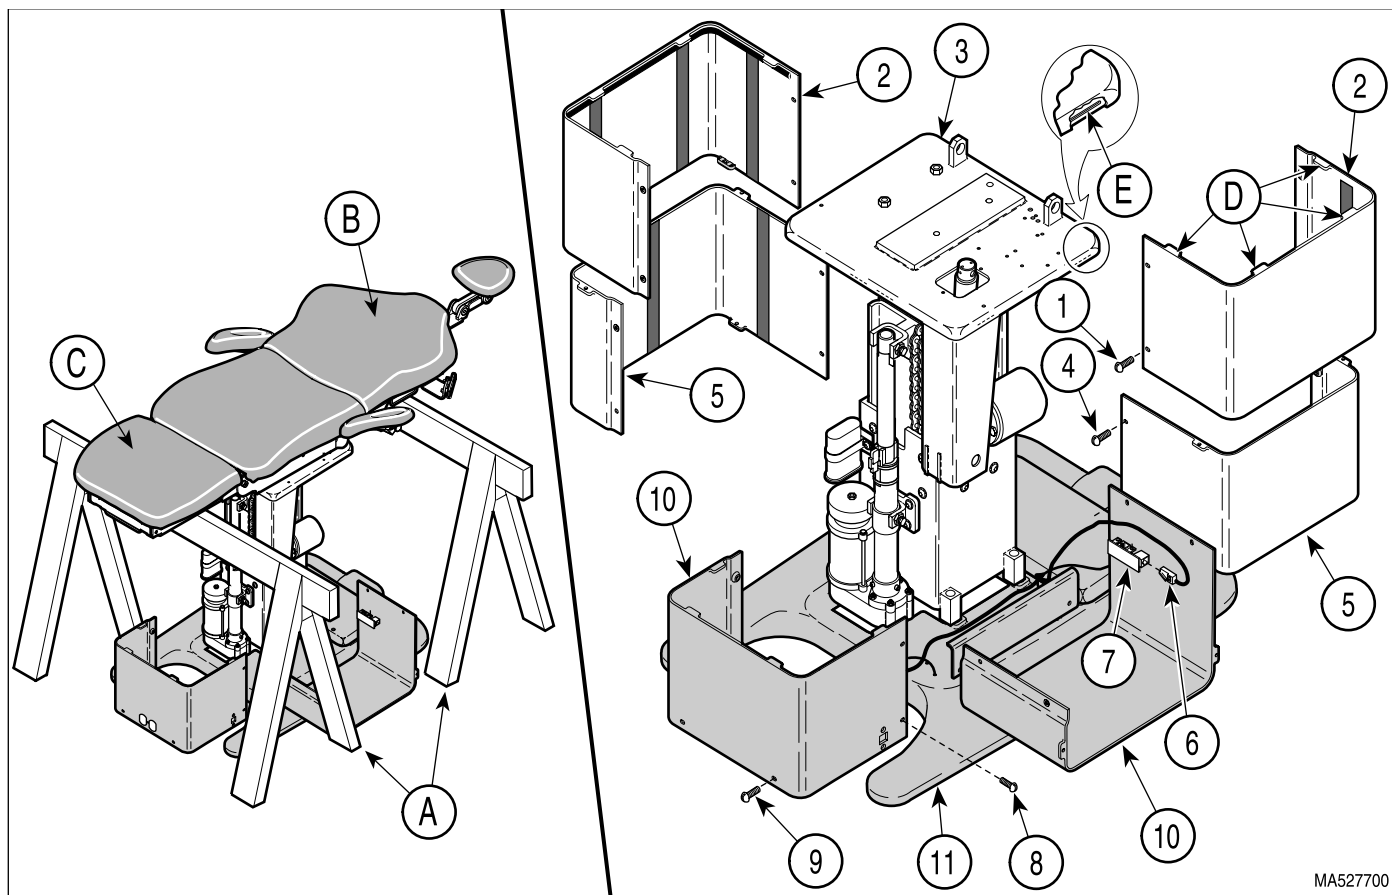
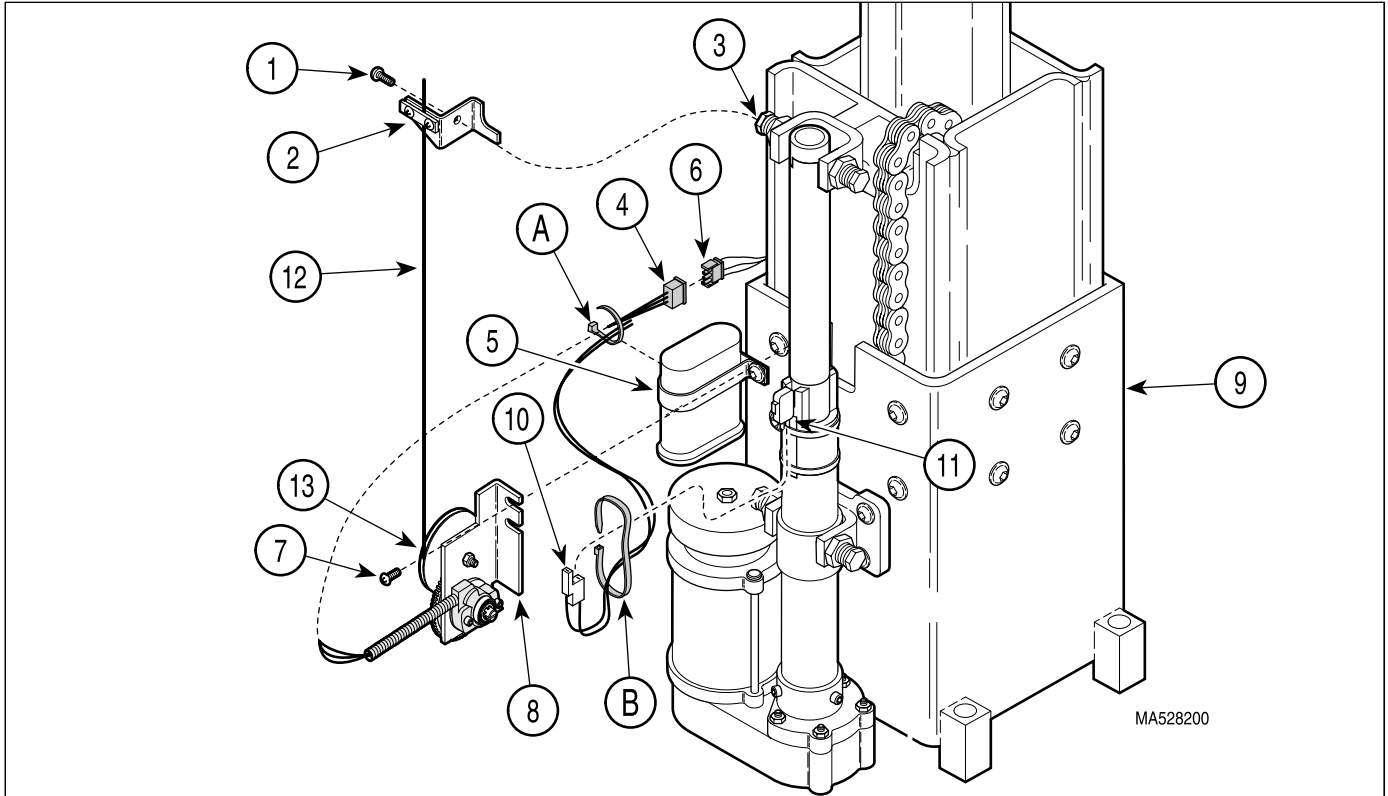
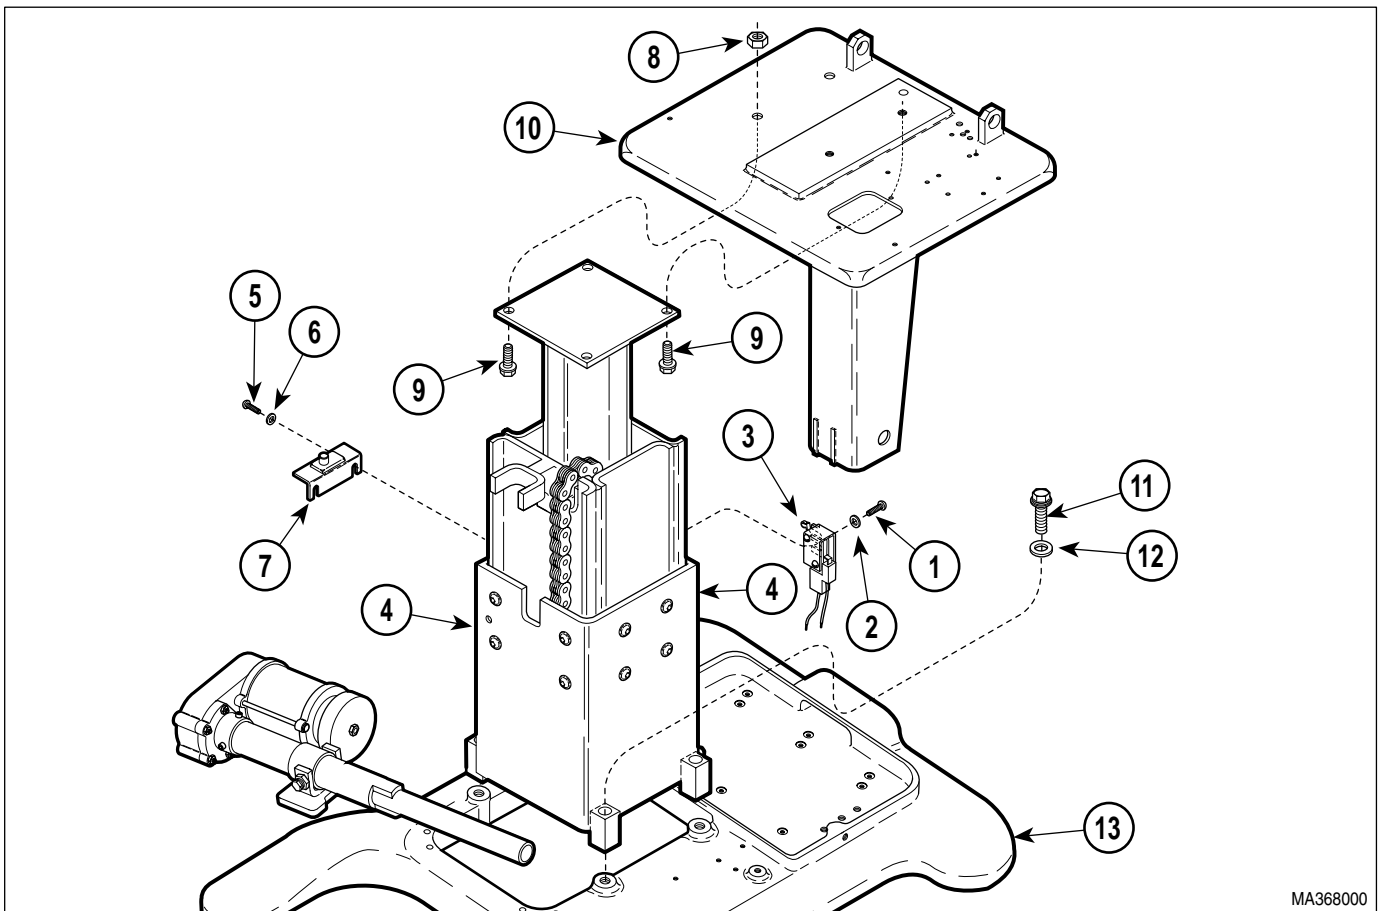

Figure 4-20. Base Shrouds Removal / Installation
Figure 4-21. Base Reducer Components Removal / Installation
Figure 4-23. Column Assembly Removal / Installation
(3) Unplug table power cord from outlet receptacle.
(4) Remove four screws (1, Figure 4-20) and R.H. and L.H. outer shrouds (2) from column adapter weldment (3).
(5) Remove four screws (4) and R.H. and L.H. middle shrouds (5).
(6) Disconnect two modular cords (6) from two inlet PC boards (7).
(7) Remove four screws (8), four screws (9) and partially remove R.H. and L.H. inner shrouds (10) from base casting (11).
(8) Place supports (A) under back section (B) and foot section (C).
(9) Remove screw (1, Figure 4-21) and cable bracket (2) from R.H. pivot screw (3).
(10) Cut cable tie (A) securing base sensor harness (4) to capacitor strap (5).
(11) Disconnect base sensor harness (4) from harness (6).
(12) Remove two screws (7) and base reducer assembly (8) from column weldment assembly (9).
- (21) Remove two screws (1, Figure 4-23), lockwashers (2), and base up limit switch assembly (3) from column assembly (4).
- (22) Remove two screws (5), lockwashers (6), and base down limit switch assembly (7) from column assembly (4).
- (23) Remove two locknuts (8) and four screws (9) which secure column assembly (4) to column adapter weldment (10).
- (24) Remove four screws (11) and four washers (12) securing column assembly (4) to base weldment (13).
- (25) Remove column assembly (4) from base weldment (13).
- (1) Position column assembly (4, Figure 4-23) on base weldment (13) and secure with four washers (12) and four screws (11). Tighten four screws (11) to 50 to 60 ft-lbs (67.8 to 81.4 N•m).
- (6) Install base actuator (7) on column assembly (4) and secure with two pivot screws (4) and secure with two pivot screws (9). Tighten pivot screws to 50 to 60 in-lbs (5.6 to 6.8 N•m).
- (7) Tighten two jam nuts (8) to 45 to 55 ft-lbs. (61 to 74.6 N•m).
- (8) Install base capacitor (3) and capacitor strap (2) on column assembly (4) and secure with screw (1).
- (9) Plug table power cord into outlet receptacle.
- (10) Connect two modular cords (6, Figure 4-20) to two inlet PC boards (7).
- (13) Secure shaft (A) of base actuator (7) to column assembly (4) and secure with two pivot screws (6). Tighten pivot screws to 50 to 60 in-lbs. (5.6 to 6.8 N•m).
- (14) Tighten two jam nuts (5) to 45 to 55 ft-lbs. (61 to 74.6 N•m).
- (15) Tighten three screws (10) to 17 - 20 ft-lbs (23 - 27.1 N•m).
- (16) Run BASE UP function to align column assembly (4, Figure 4-23) with column adapter weldment (10).
- (17) Secure column assembly (4) to column adapter weldment (10) with four screws (9) and two locknuts (8). Tighten screws (9) to 50 - 60 ft-lbs. (67.5 - 81.0 N•m).
- (18) Run BASE UP function until weight is off of supports; then remove supports (A, Figure 4-20) from under table top.
- (19) Install base down limit switch assembly (7, figure 4-23) on column assembly (4) and secure with two lockwashers (6) and screws (5).
- (20) Adjust base down limit switch (Refer to para 4.15).
- (21) Install base up limit switch assembly (3) on column assembly (4) and secure with two lockwashers (2) and screws (1).